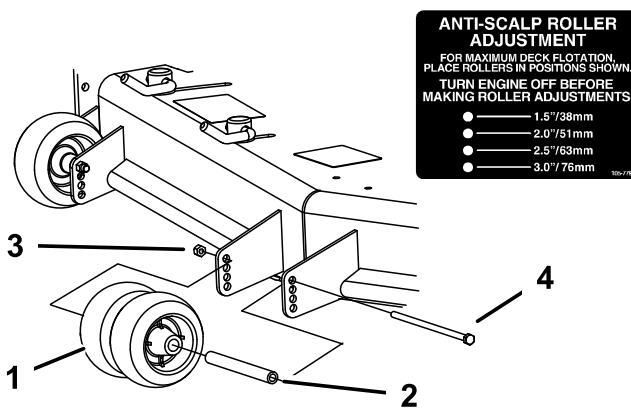
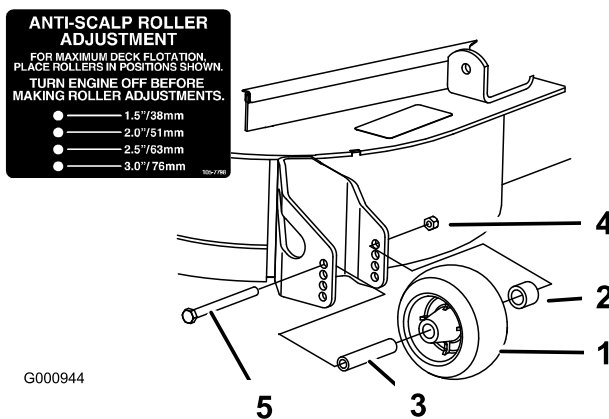

Figure 28
Figure 29
3. Adjust the anti-scalp rollers as shown in Figure 27, Figure 28, and Figure 29.